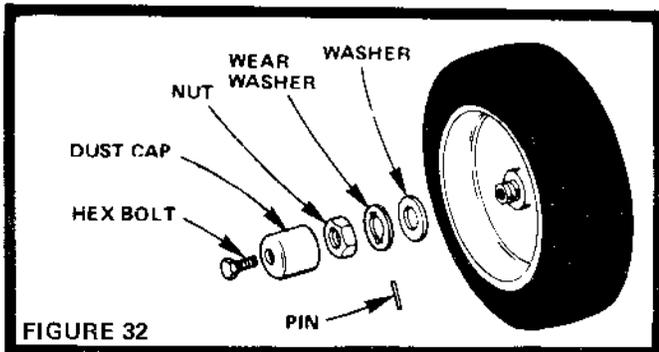

FIGURE 32
- Removing front wheel for tire repair (Fig. 32).